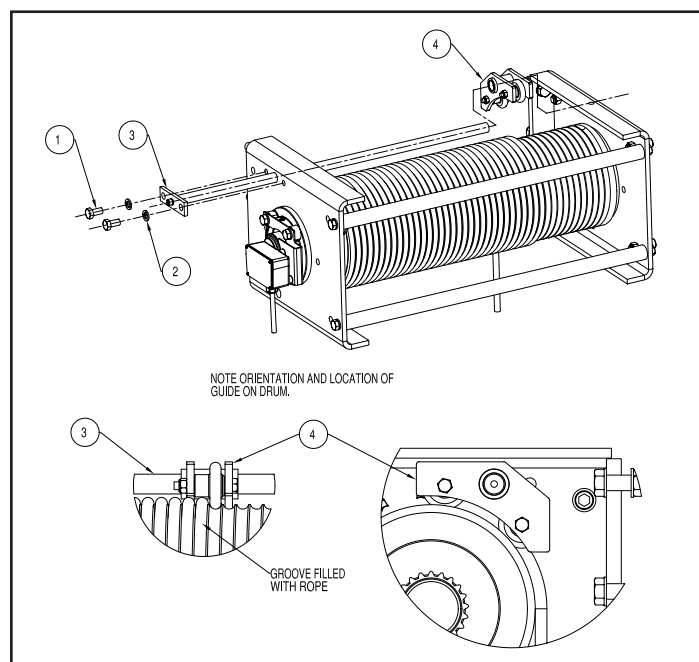

Figure 5-3b. Rope Guide Assembly ("D" Frame)
- (4) Remove the split plastic shroud (Item 2) from the drum. When reassembling the rope guide, be sure the plastic shroud (Item 2) fits snugly in the rope guide body groove.
- (5) Thoroughly clean and inspect all components.
- (6) Follow steps in reverse to reassemble. Be sure to re-grease the rope guide with MPG (Paragraph 4-7), after assembling.
- c) Disassembly for "D" Frame. Refer to Fig. 5-3b. For further assistance in locating components, refer to the parts list in Section IX.
- (1) Remove hex head cap screws and lock washers (Items 1 and 2). Pull back on drum frame rod assembly (Item 3) until the free end pulls free of the gearcase end drum bracket.
- (2) Slide the rope guide assembly (Item 4) off the end of the drum frame rod and remove from drum groove area. Note the required orientation of the rope guide assembly for re-installation.
- (3) Thoroughly clean and inspect all components.
- (4) Follow steps in reverse to re-install, paying attention to orientation and making sure to seat the assembly into the correct drum groove. Be sure to regrease the rope guide with MPG (Paragraph 4-7), after assembling.